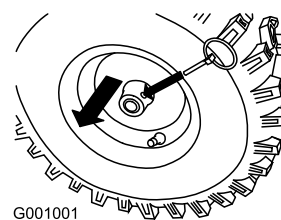

Figure 9
17. To operate the snowthrower using the self-propel feature, slide the wheels outward and insert the axle pins through the holes in the wheel hubs and the inner axle holes (Figure 9).